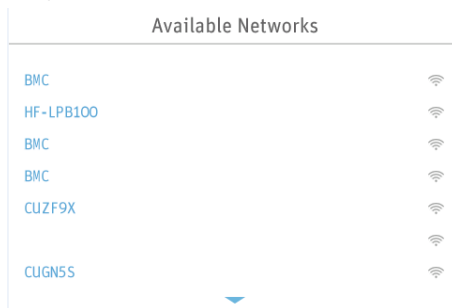
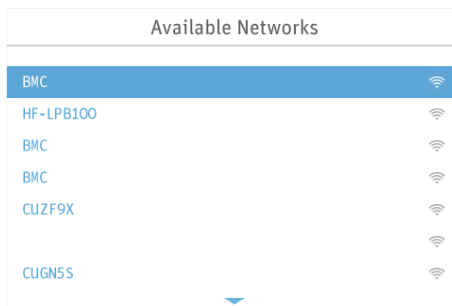

Fig. 15-7
Fig. 15-8
(3) The **WiFi** setup interface displays a certain number of available WiFi networks in a random order, as shown in Fig. 15-7. If a page turning symbol  appears below the WiFi network list, it indicates that when the cursor is on the last WiFi network on that page, the user can turn **the Knob**  to the right to see the remaining WiFi networks, as shown in figures 15-8. If the desired WiFi network is not listed, disconnect the device from the power supply, connect it to the power supply again, and then repeat steps (1) (2) to search for WiFi networks. Keep searching until the desired WiFi network is found.